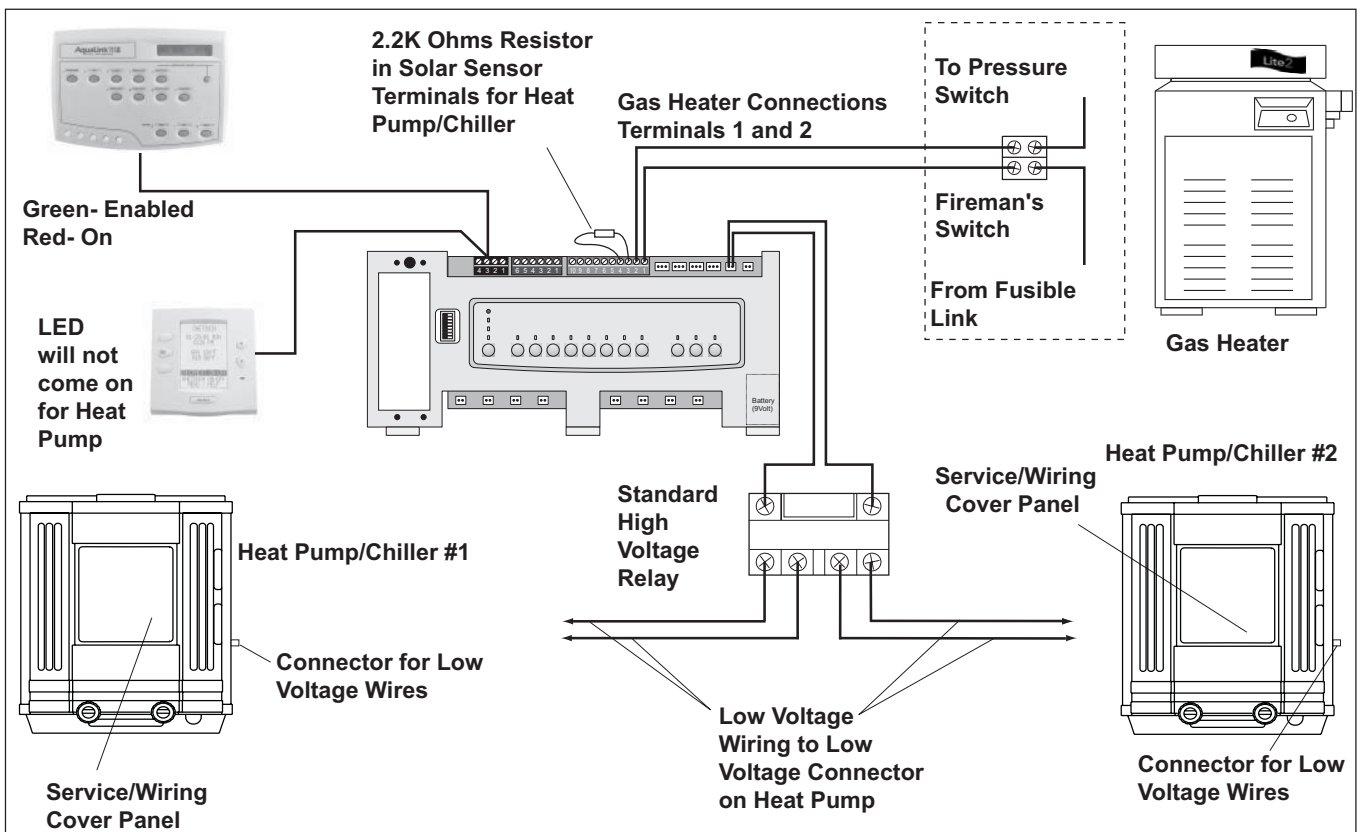

Figure 17. AquaLink RS to AE-Ti Heat Pump/Chiller Wiring
1. Install a fixed resistor, with a value of 2.2K Ohms, in the solar sensor terminals #3 and #4 of the green, 10-pin terminal bar of the AquaLink RS Power Center (see Figure 17).